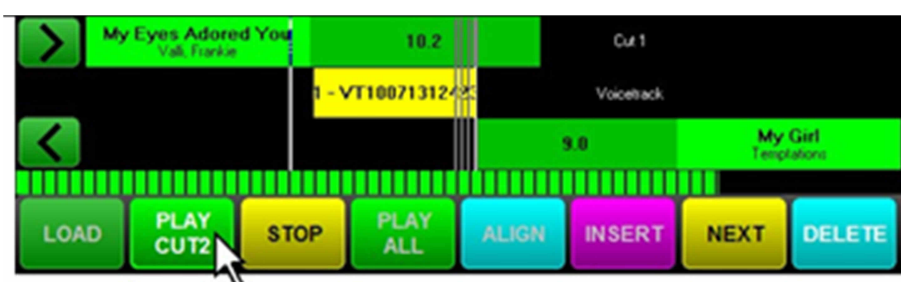

Figure 6-20. Clicking the Play Cut 2 Button
- 2. To set the start point of Cut 2, click the **Play Cut 2** button (see Figure 6-20).